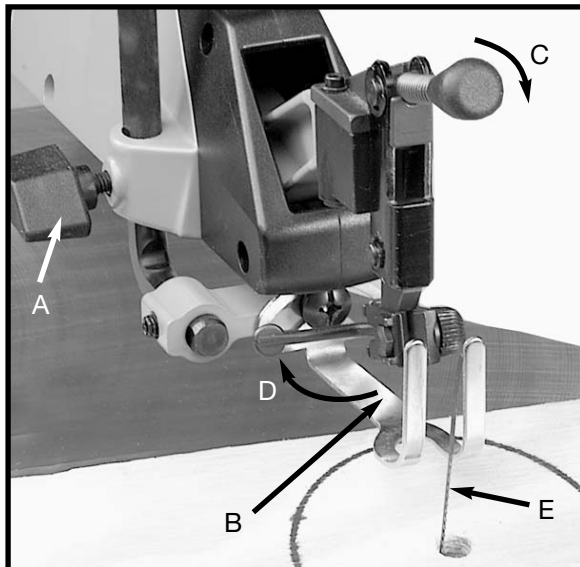

Fig. 26
Loosen lock knob (A) Fig. 26, and raise the holddown (B). Release blade tension by moving tension lever (C) forward and loosen upper blade holder by moving lever (D) to the rear as shown. This will release the blade (E). Insert the blade (E) into the next hole in the pattern, as shown.